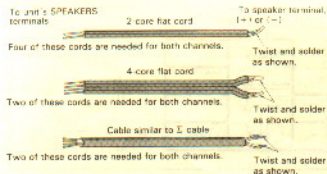

Fig. 2 Substitute Cords for E Cables
2. If the cables (supplied) are too short for your system, commercially available cables as shown in Fig. 2 can be used. Pay attention to polarities when using such cables. Keep the speaker cables as short as possible.